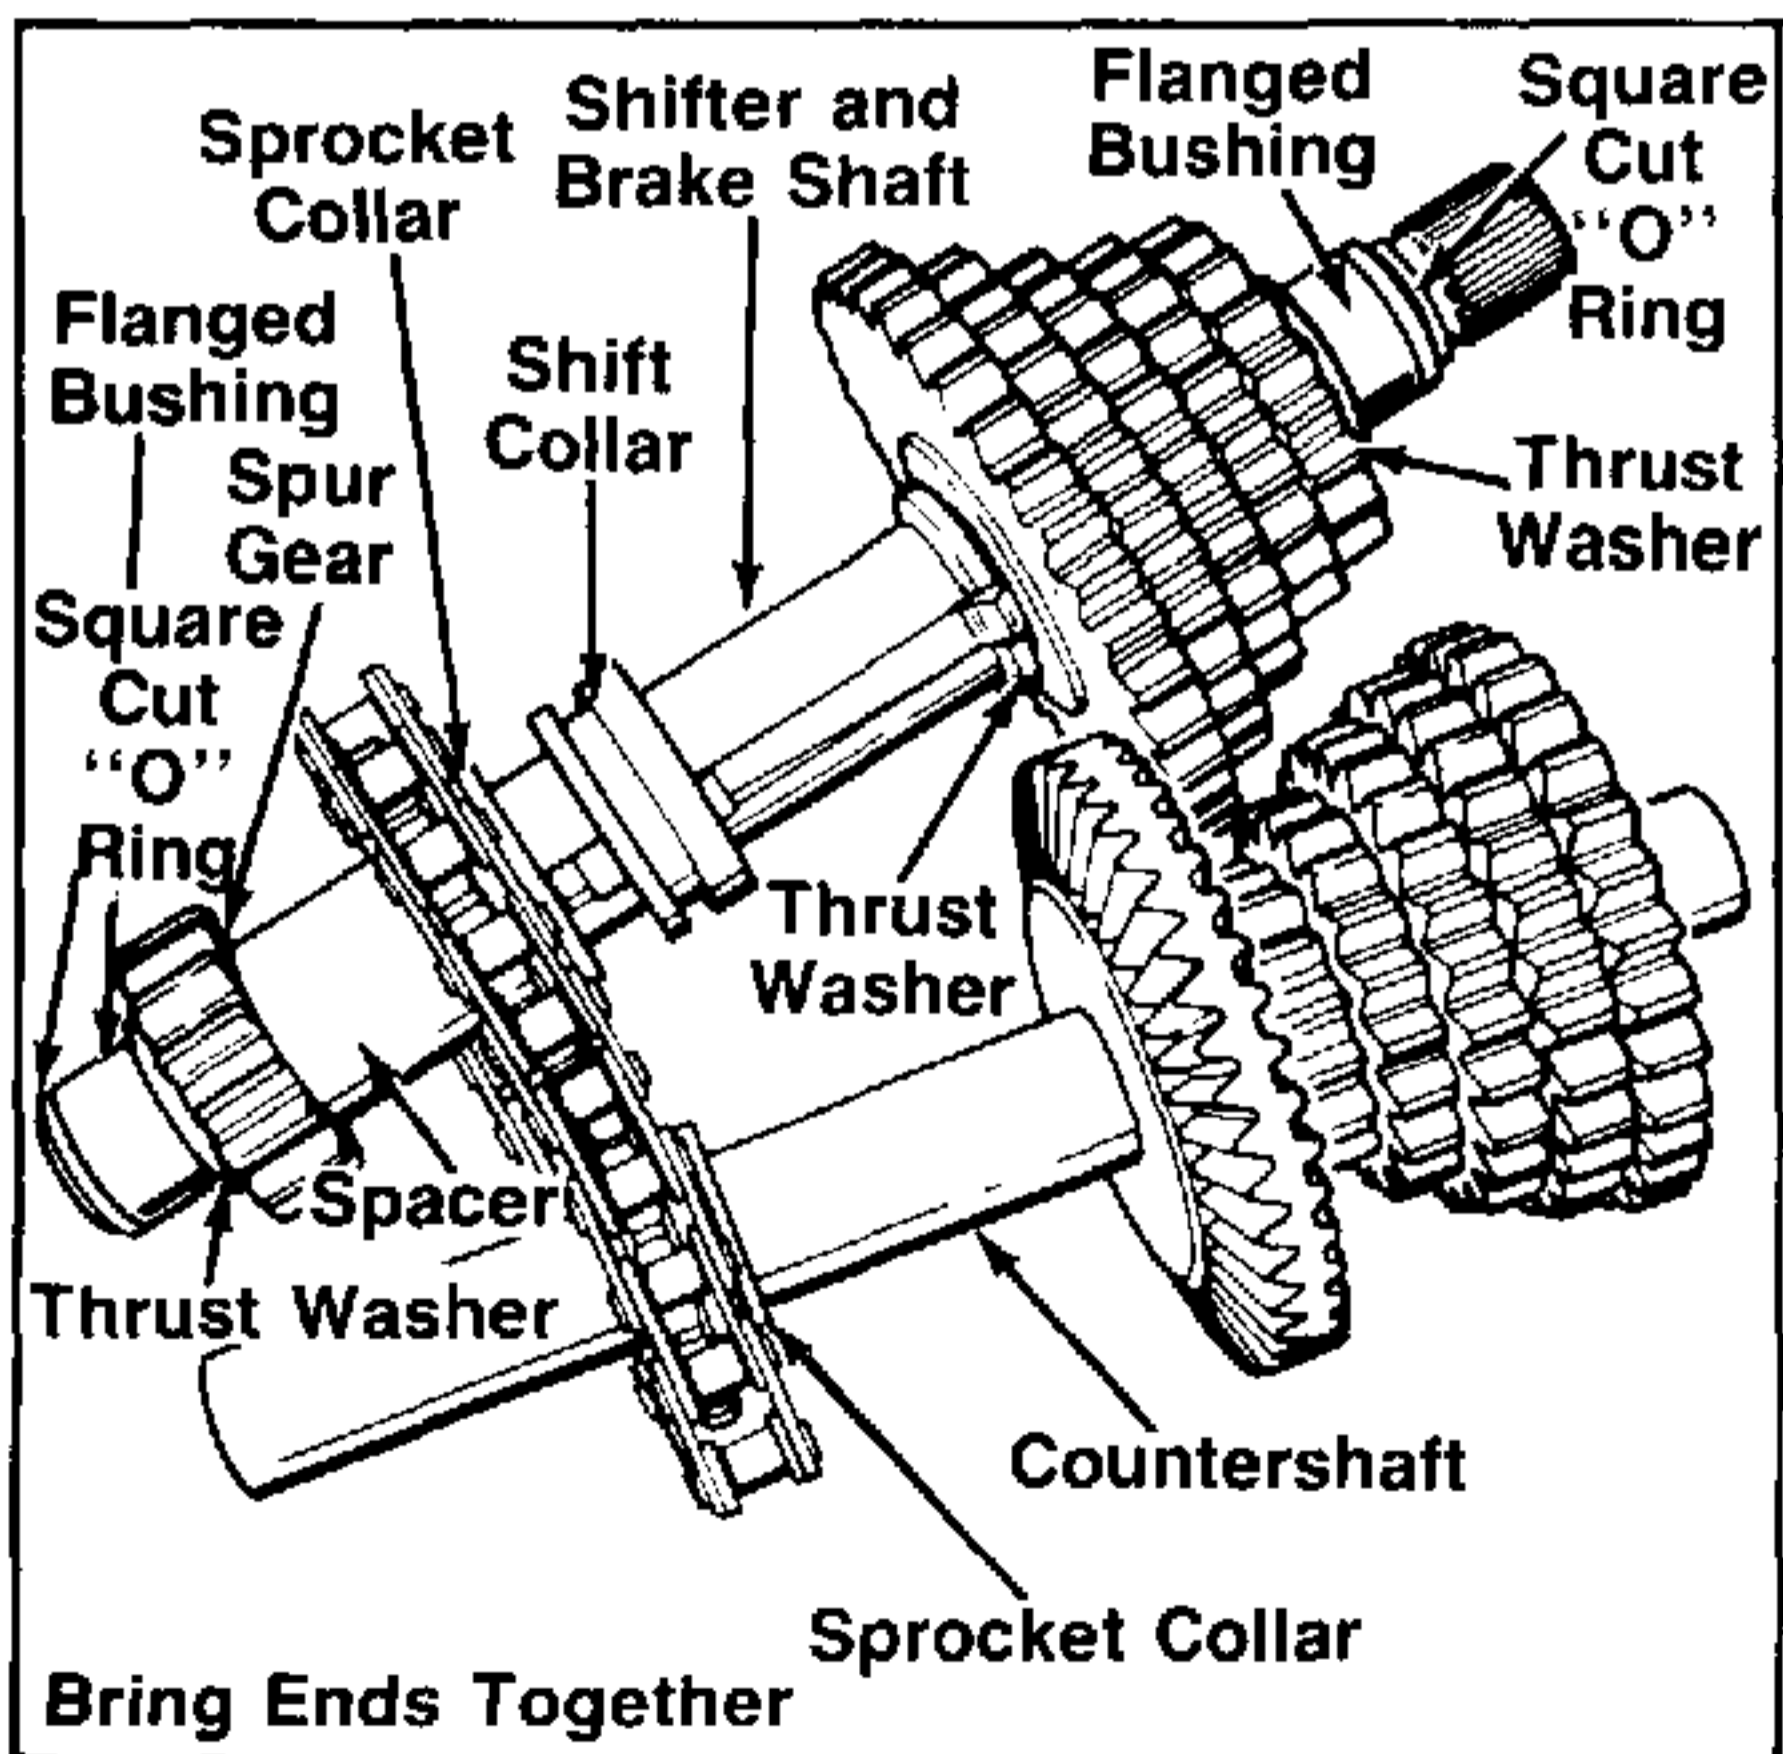

FIGURE 27.
- With the shifter and brakeshaft and countershaft ends angled together, install the chain on the sprockets. See figure 27.